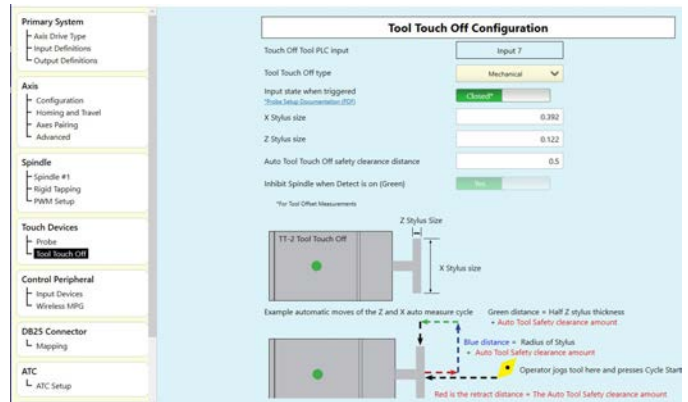

FIGURE 35
C. Click on “Tool Touch Off” and input your probe information. The picture below represents our probe dimensions (see Figure 35).